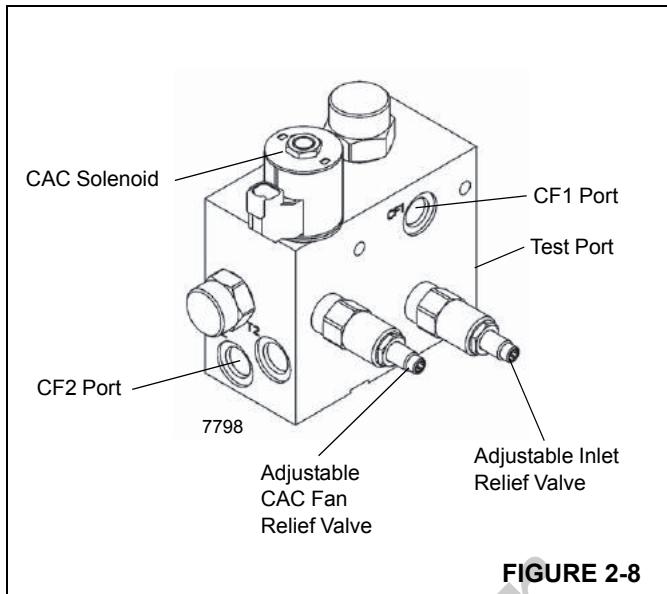

FIGURE 2-8
1. With engine off, disconnect hose at port "CF1" at the brake charge/CAC fan motor supply valve Figure 2-8; cap and plug all openings.
1. Install pressure check diagnostic quick disconnect (Parker PD240) with gauge onto Test Port, Figure 2-8.